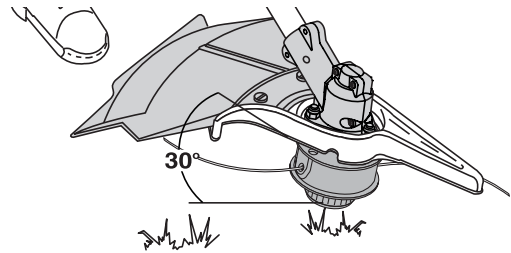

Fig. 24
Decorative trimming is accomplished by removing all vegetation around trees, posts, fences and more. Rotate the whole unit so that the cutting attachment is at a 30° angle to the ground (Fig. 24).
- Remove the four (4) screws securing the air filter/muffler cover (Fig. 24). Use a flat blade or T20 Torx bit screwdriver.